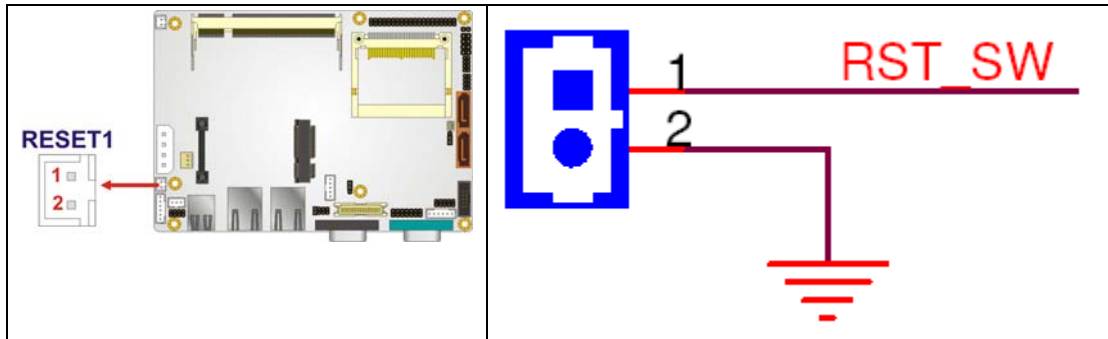

Figure 3-9: Reset Button Connector Locations
- CN Location:** See **Figure 3-9**